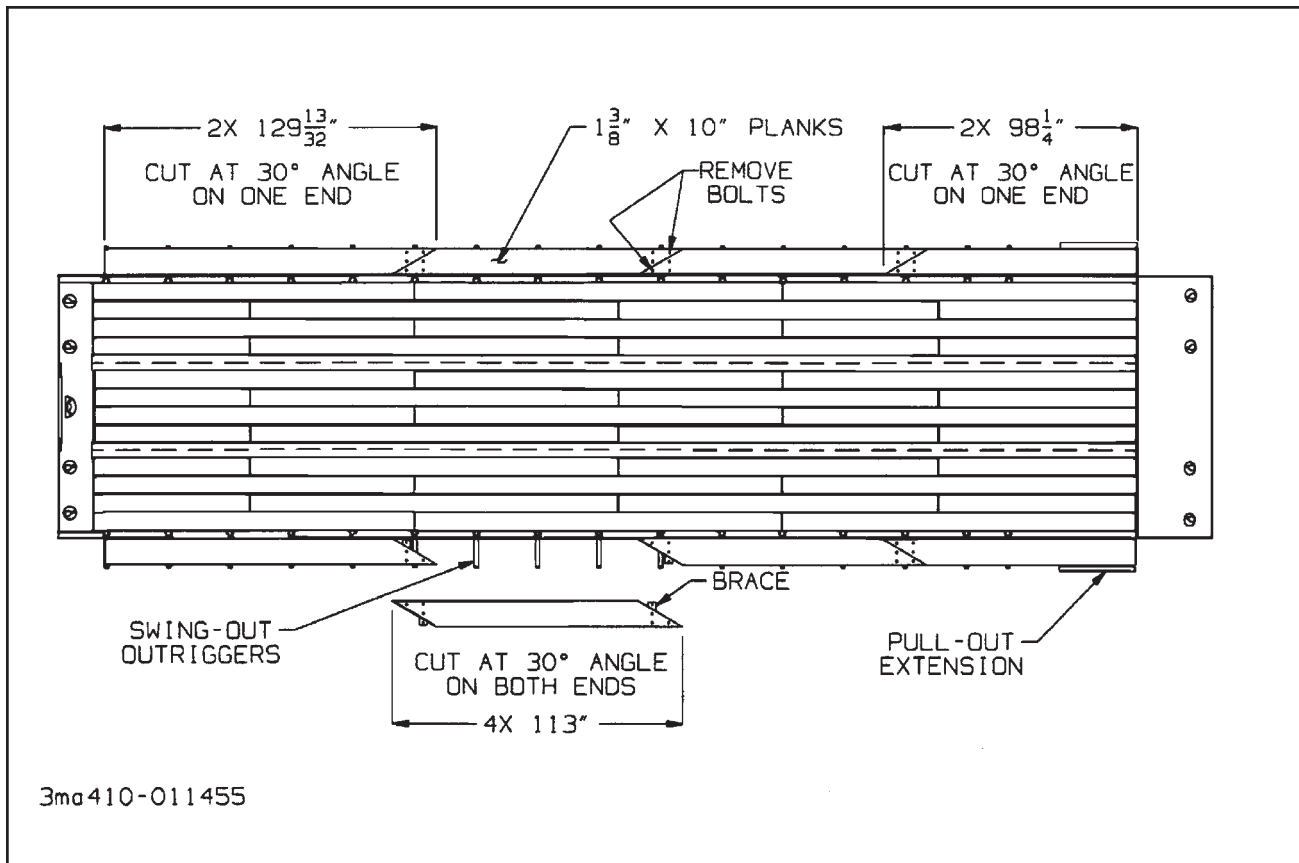

Figure 3-5 Outrigger Platform Extension
3-11 SWINGOUT OUTRIGGER PLATFORM EXTENSION SET-UP (OPTION)(See **Figure 3-5**)
- 3-11.6** Remove only two bolts for each joint as shown in **Figure 3-5**. Leave braces attached to boards for storage.